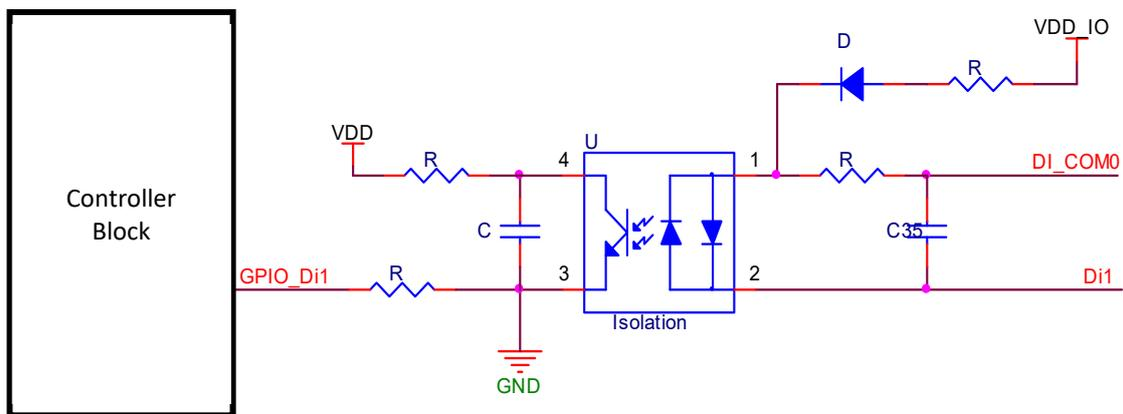

Figure 4.6 - Schematic Diagram of DI (Digital Input) Circuit
Figure 4.6 shows an example of schematic diagram for a digital input (DI) circuit of IO5202. In this case, the “Controller Block” on the left side of the diagram is inside the IO5202. Digital input signal that is fed into the IO5202 via pin Di1 will be sent to GPIO_Di1 pin of the Controller Block. Note that the isolation device denoted U such as optocoupler or opto-insulator is used to electrically separate the external circuit from IO5202 circuit. It can prevent high voltages from outside the IO5202 to affect the internal controller block of IO5202. The DI_COM0 is used to provide the supply voltage for the input digital signal while the GND provide the ground signal of the input signal.